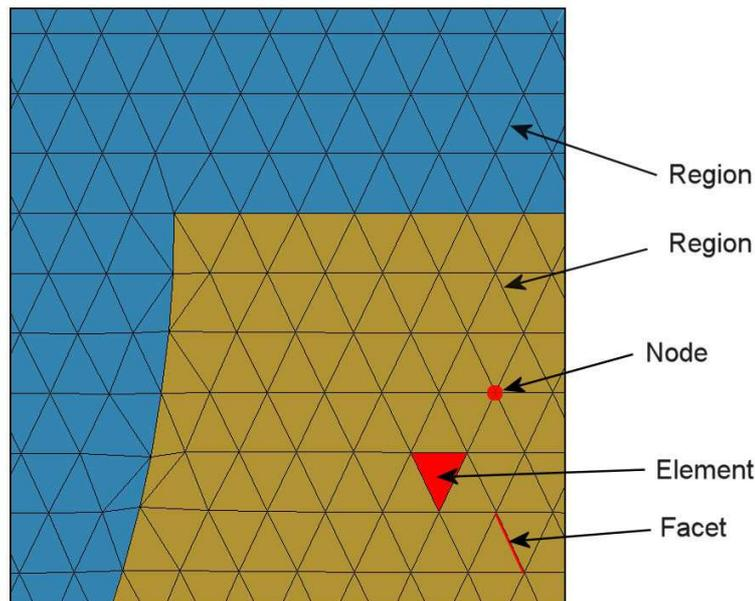

Figure 2: Conformal triangular mesh – definition of terms.
The basis of the finite-element approach is to divide the full solution volume into a number of small volumes, or *elements*. Here, the term *small* indicates that element dimensions are much less than the scale length for variations of field quantities. The division of the volume is called the *computational mesh*. Figure 2 shows the type of mesh used for the two dimensional solutions of **Pulse**. The figure defines three terms that will be used throughout this manual:
The elements in Fig. 2 have triangular cross-sections. In a planar solution, the cross-section lies in the  $x$ - $y$  plane and the elements extend an infinite distance in the  $z$  direction. In a cylindrical solution, an element is a figure of revolution about the axis with a triangular cross-section in the  $z$ - $r$  plane.
The mesh in Fig. 2 has the important property of *conformality*. The term means that the triangles have been specially shaped to conform to the boundaries between materials (*regions*). As a result, each element has an unambiguous material identity. The finite-element method is
2. **Mesh** analyzes the boundary specifications and automatically generates a set of conformal triangles such as those of Fig. 2. The program creates an output file that lists the locations of nodes and the identities of elements.